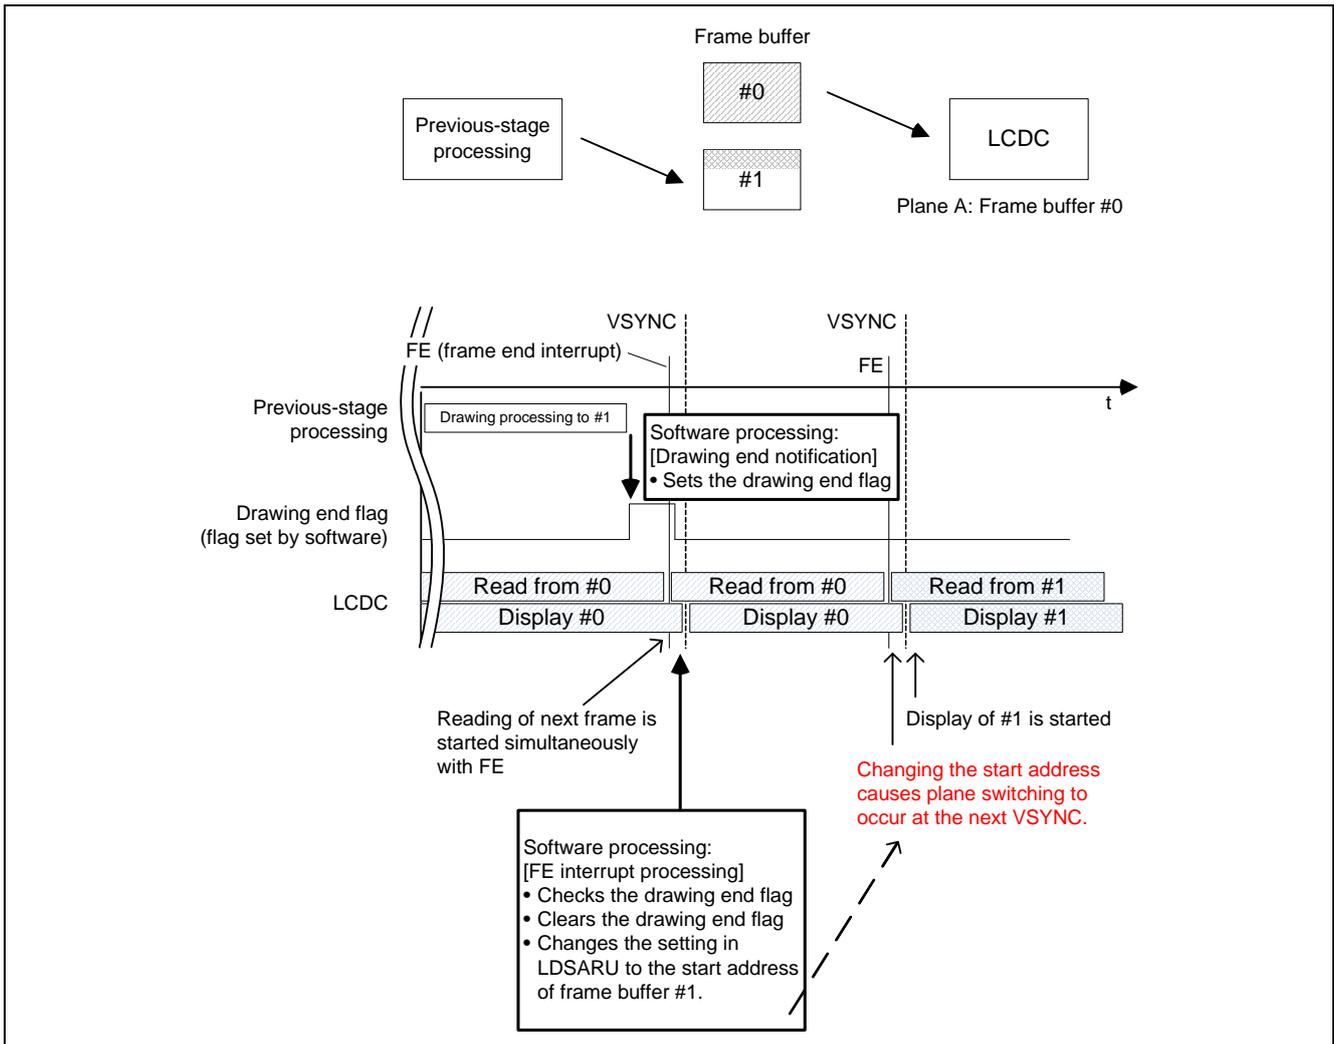

Figure 10 Timing of Software Switching Occurrence
- Figure 10 shows the timing chart for hardware switching. Shown here is an example of flag usage by software in order to achieve synchronization with the previous-stage processing.